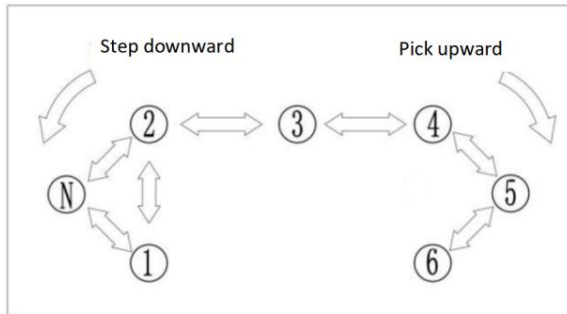
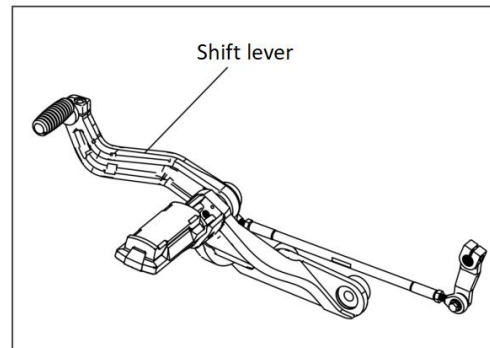

Figure 12
Figure 13
5.4.1 Shifting operation (Figure 12, Figure 13)